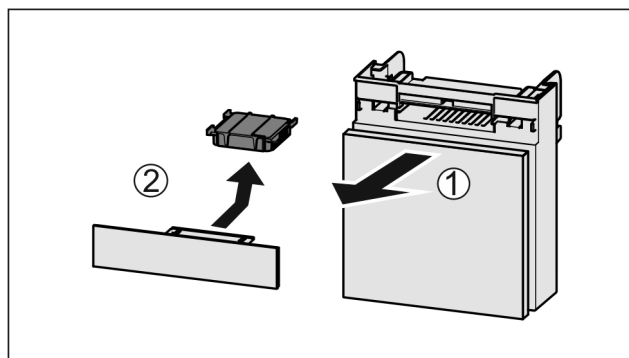

Fig. 142
- ▶ Pull out the compartment Fig. 142 (1).
- ▶ Remove the carbon filter Fig. 142 (2).